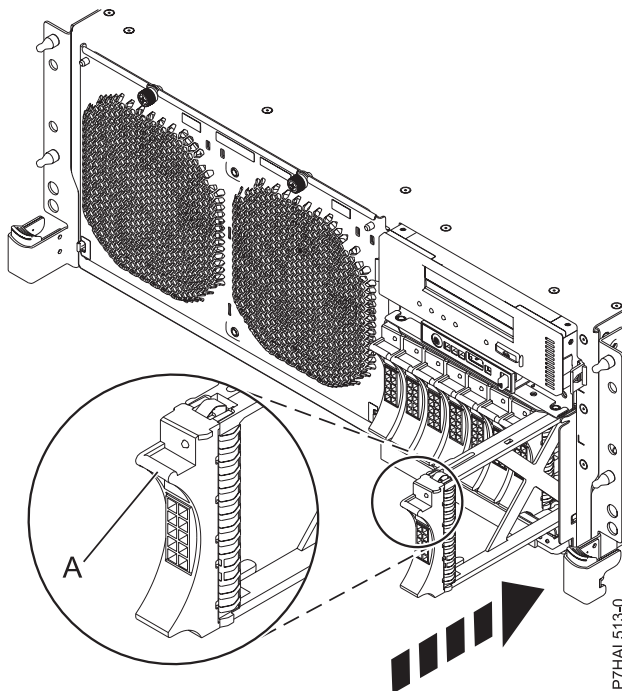

Figure 30. Installing a disk drive filler in the system
2. Slide the disk drive filler all the way into the system or expansion unit, and push the disk drive filler handle (A) until it locks, as shown in Figure 30.